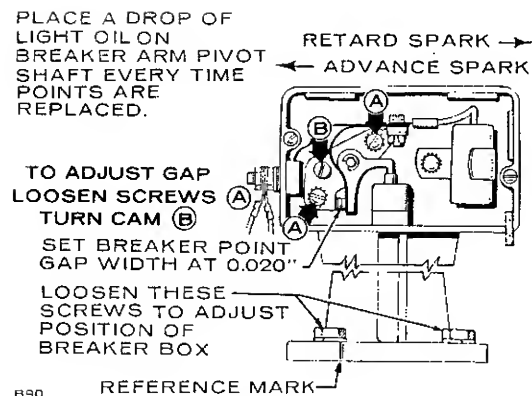

FIGURE 22. SETTING BREAKER POINTS
3. Turn flywheel in a clockwise direction approximately 1/4 turn after top center (TC).
4. To adjust gap, refer to Figure 22. Loosen screws (A) and turn cam (B) until point gap measures .020 inch with a flat thickness gauge. Retighten screws (A) and recheck gap.